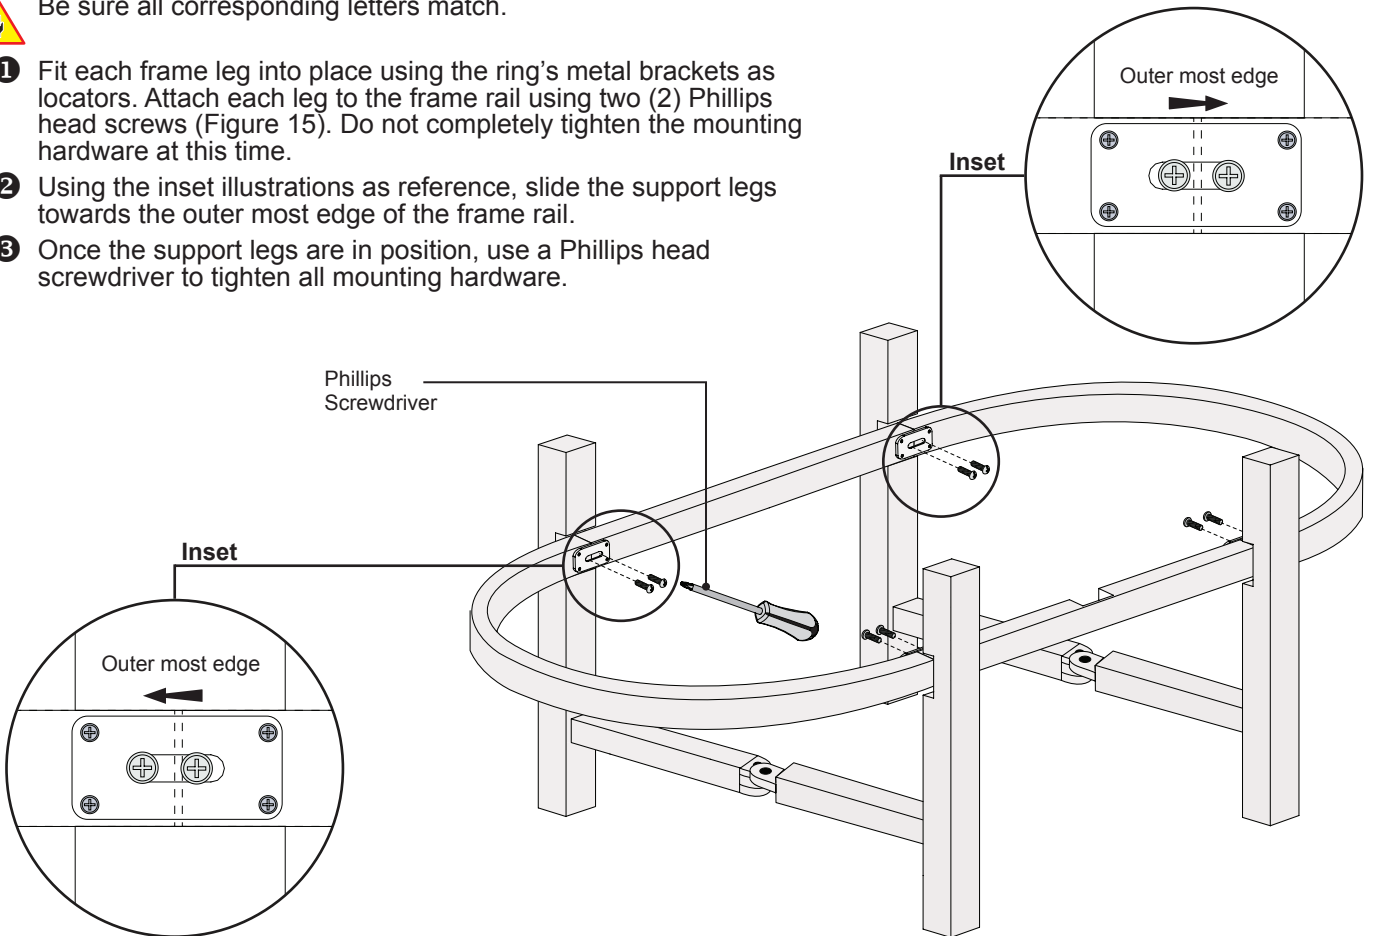

Figure 15. Wood Frame Assembly
- ① Fit each frame leg into place using the ring's metal brackets as locators. Attach each leg to the frame rail using two (2) Phillips head screws (Figure 15). Do not completely tighten the mounting hardware at this time.
- ② Using the inset illustrations as reference, slide the support legs towards the outer most edge of the frame rail.
- ③ Once the support legs are in position, use a Phillips head screwdriver to tighten all mounting hardware.